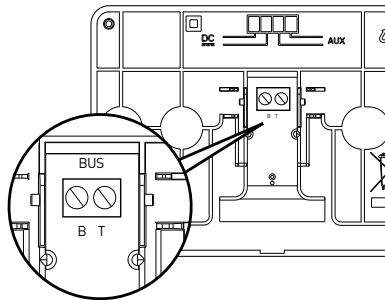
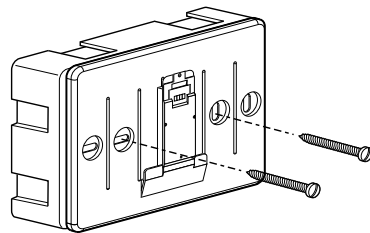

fig. 1
fig. 2
- connect the pair of wires to the connector (fig. 1);
- fix the base of the device to the box on the wall using the screws supplied in the kit (fig. 2);
1. Open the front panel of the gateway by removing the two locking screws placed at the bottom of the device (fig. 1), slightly rotate the cover (fig.2) and pull it down (fig. 3).